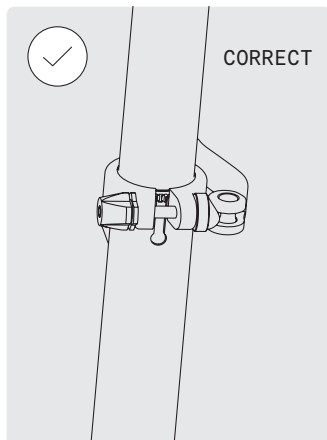

FIG. 34
- Make sure that the seatpost is not pulled out beyond the MIN/MAX marking out of the saddle tube (Fig. 34, 35).